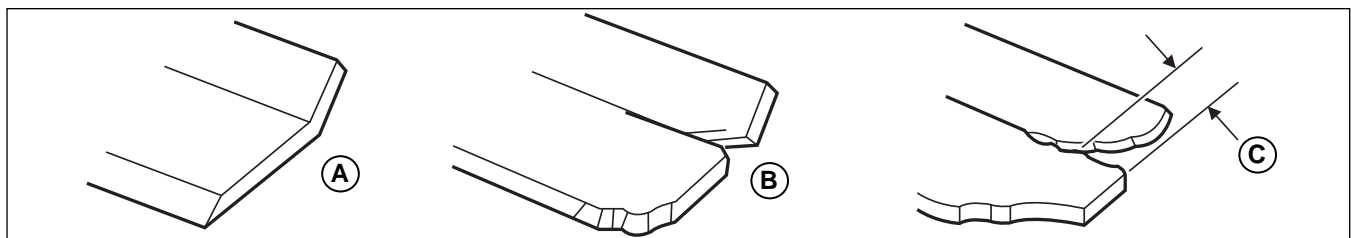

Figure 26. inspecting the Mower Blade Air Lifts
- B.) The air lifts are excessively eroded (B & C, Figure 26) and the notch (C) is .25" (6,35 mm) deep or greater.